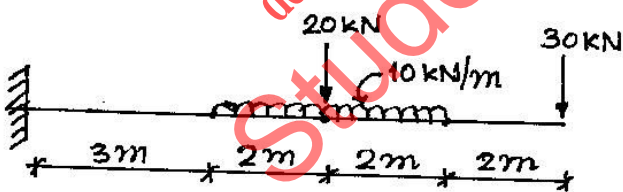

FIG 7. Q 3 (c) OR
- (c) Draw shear force and bending moment diagram for beam shown in **fig 7.** **05**